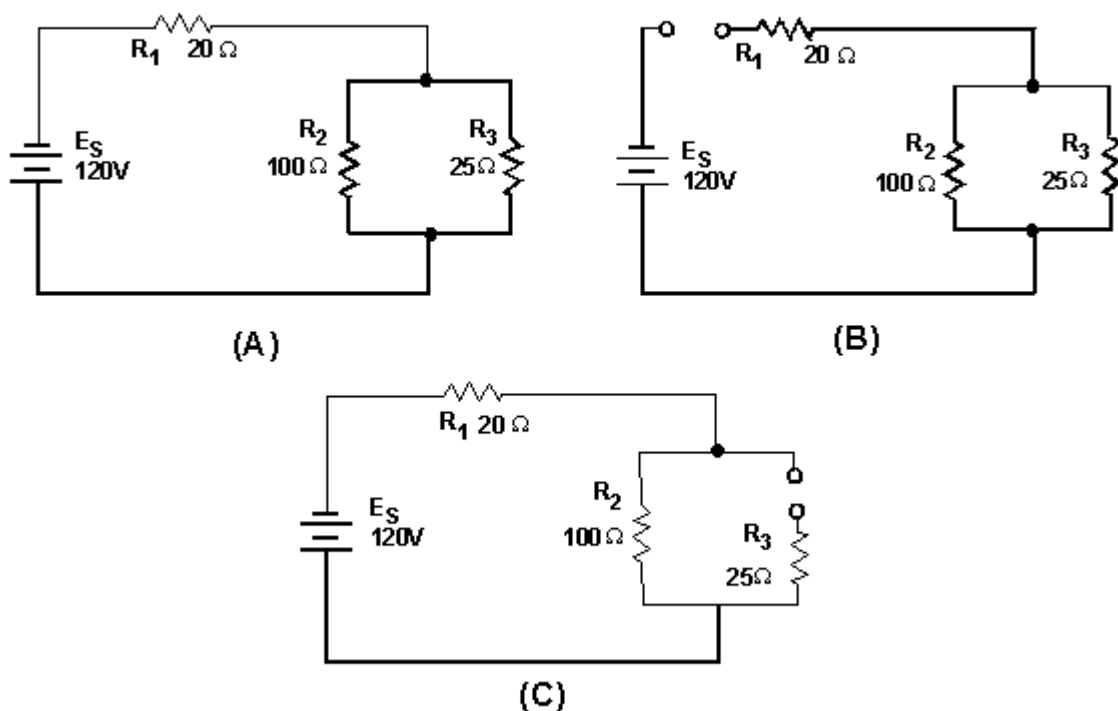

Figure 3-61.—Series-parallel circuit with opens.
To clarify these points, figure 3-61 illustrates a series parallel circuit. First the effect of an open in the series portion of this circuit will be examined. Figure 3-61(A) shows the normal circuit,  $R_T = 40$  ohms and  $I_T = 3$  amps. In figure 3-61(B) an open is shown in the series portion of the circuit, there is no complete path for current and the resistance of the circuit is considered to be infinite.
In figure 3-61(C) an open is shown in the parallel branch of  $R_3$ . There is no path for current through  $R_3$ . In the circuit, current flows through  $R_1$  and  $R_2$  only. Since there is only one path for current flow,  $R_1$  and  $R_2$  are effectively in series.